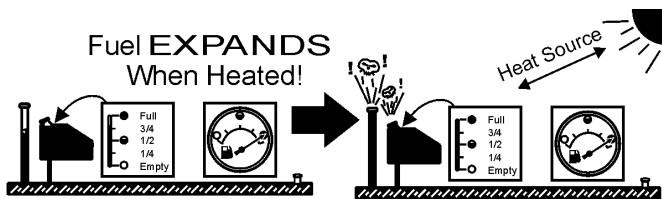

**Figure 34. Full Fuel System**
- Figure 34 below reflects a full fuel system.